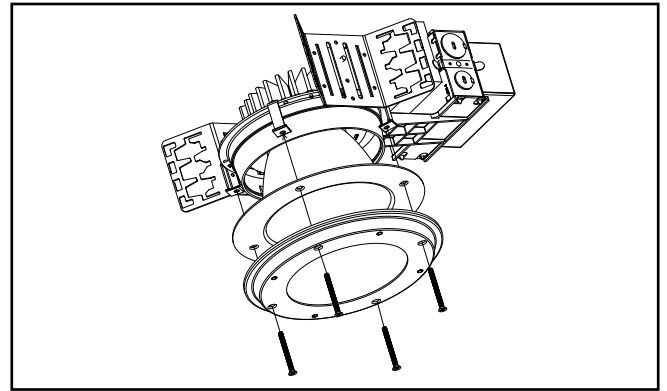

Figure 17
10. If trim is for operating room (FLD6/OR), make sure to install the bottom trim assembly so that the screw holes line up with the (4) mounting brackets in the housing, and install securely with the (4) screws provided. (Figure 17)